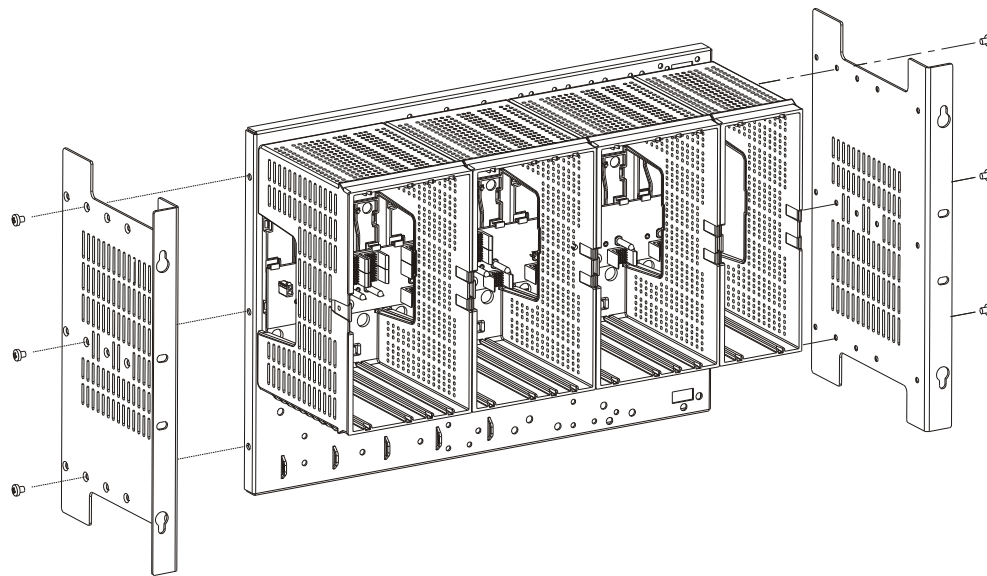

Figure 2-4 Attaching Brackets to 19" Frame - Exploded View
- 1) Using three M4 screws supplied with kit FHN7420A, attach the metal bracket (p/n 07013005001 from kit FHN7420A) to the side of the 19" frame metal back, according to the desired depth of the unit on the rack. Repeat with the second bracket on the other side of the 19" frame metal back. See Figure 2-4.